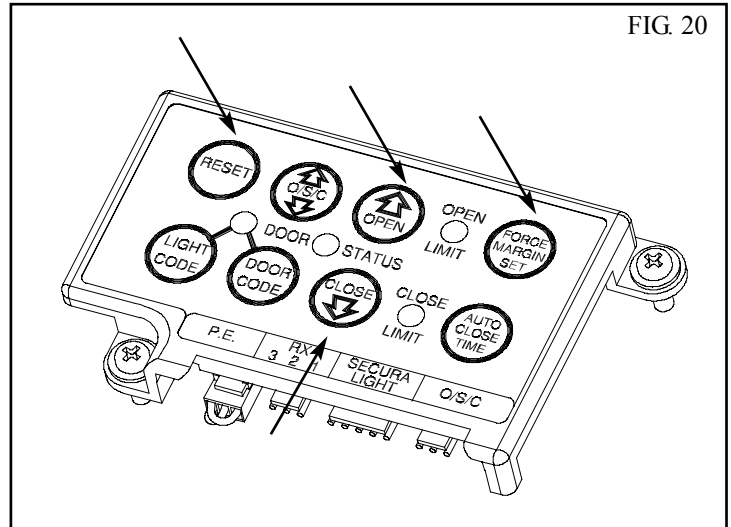

FIG. 20
1. Press and hold the Close button (**Fig. 20**) to move the door to the fully closed position. Check that the red LED is steady ON, to confirm the door is set on the closed limit position
2. Press the Reset button (**Fig. 20**) for two seconds, the door should start opening. When the door reaches the fully open position it will pause momentarily then start to close. The door has to do a complete open and close cycle without interruptions for the safety obstruction parameters to be calculated and set automatically.
1. Press and hold the Force Margin Set button (**Fig. 20**).
1. Open the door by pressing the Yellow O/S/C button (**Fig. 20**).
1. Close the door by pressing the Yellow O/S/C button. (**Fig. 20**).